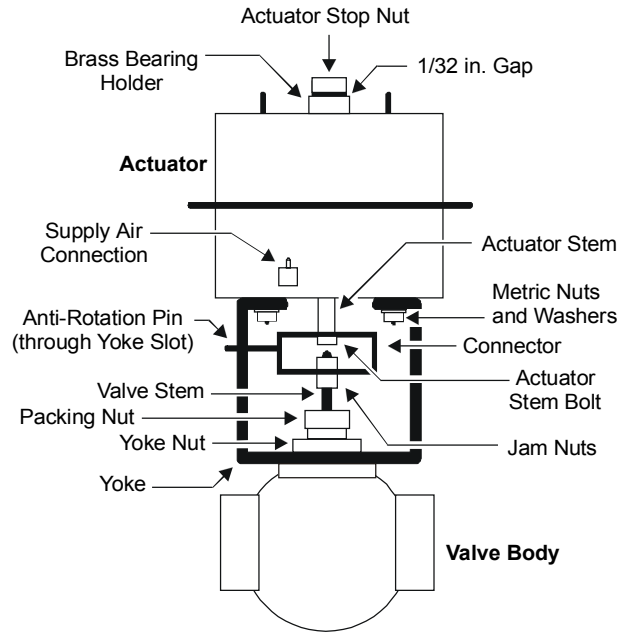

Figure 3: Components of a Spring-Return-Down Actuator
9. Thread the lower jam nut against the connector, and tighten until there is a 1/32 in. gap between the actuator stop nut and the brass bearing holder at the top of the actuator. (See Figure 3.)